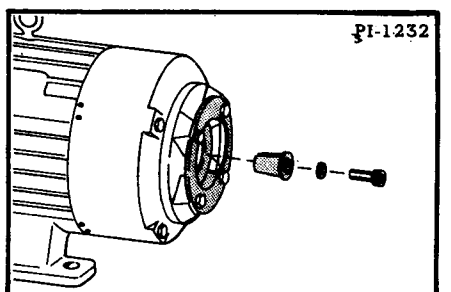

Fig. 157 Pump Drive Adapter Removal
7. Remove worn pump drive adapter from the motor shaft (Figure 157).